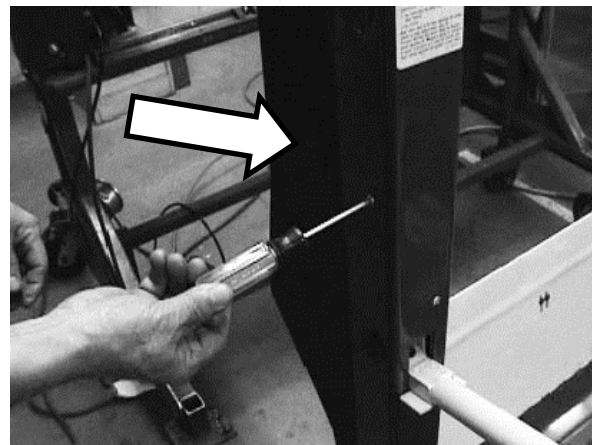

Figure 5. Remove Pinch Point Shields
5. Refer to **Figure 5**. Remove pinch point shields to access knuckle link arms.